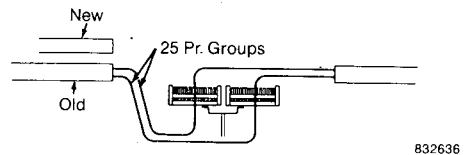

Fig. 107—Place existing stub groups into base.
- k. Place existing stub groups into base of 4000 module in splice head in color code order. **Make sure ends to be cut off are toward the original splice.** See Figure 107.